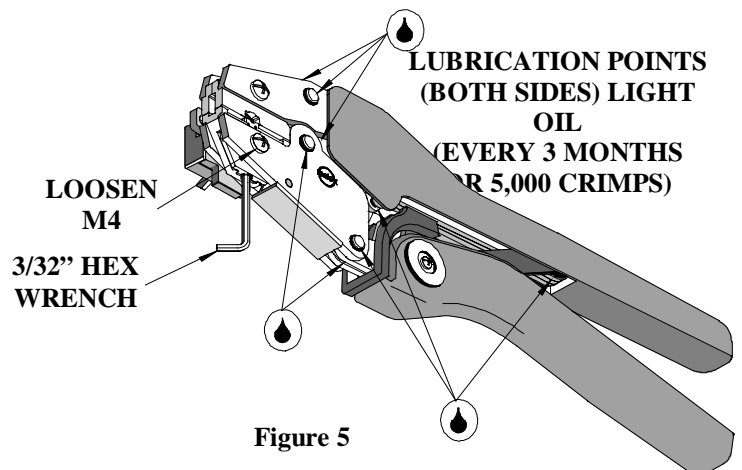

Figure 5
5. If the insulation part of the crimp needs to be adjusted, first loosen the M4 screw on the bottom tool jaw, then insert a 3/32 hex wrench (supplied) into the bottom of the lower die (See Figure 5). A clockwise (CW) rotation decreases insulation crimp while a counter-clockwise (CCW) rotation increases insulation crimp. After adjusting retighten the M4 screw.